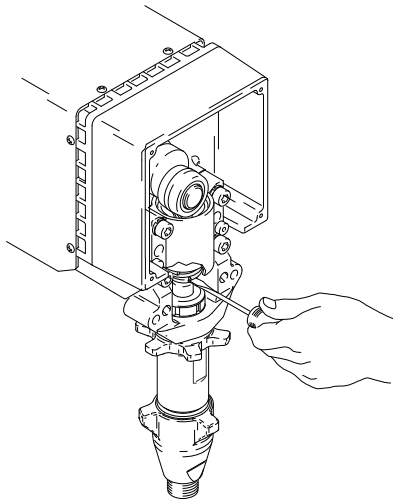

Fig. 21
3. Fig. 21. Use screwdriver to push retaining spring up.